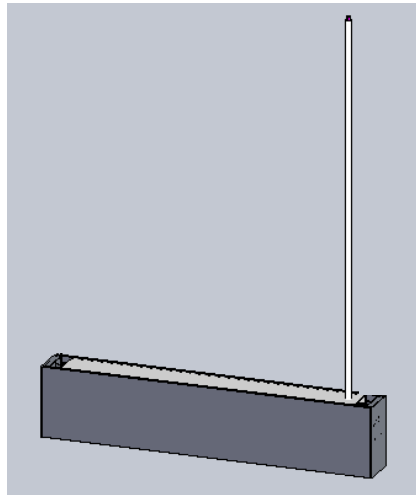

FIG. 2 - DUO LUMINAIRE (PRE-ASSEMBLED)
1. DUO LUMINAIRE. (Pre-assembled as shown in FIG. 2)
2. INSTALLATION INSTRUCTIONS – (as shown in FIG. 2) Please completely read the install instructions before starting installation.